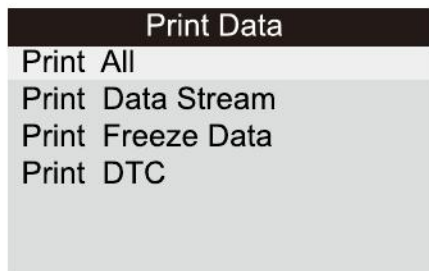

Figure 5.2
4) Use the UP/DOWN scroll button to select **Print Data** from **Main Menu** in the scan tool , and press the OK button. (Figure 5.2)